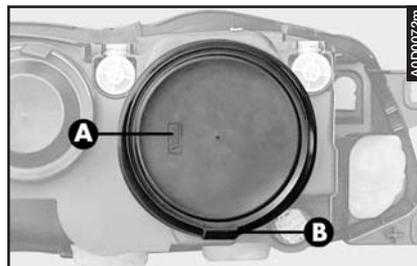

fig. 39
– Remove the rubber cap (**A- fig. 39**) by pulling the tab (**B**).